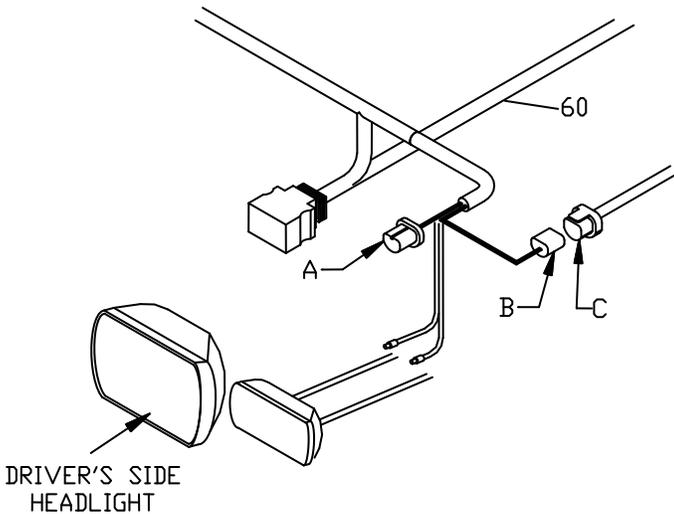

Figure 14. Driver Side Headlight
14. Check that **MSC09058** End Cap (79) is properly inserted into **LBA11117** Light Bar (13).
15. Place **MSC11109** Driver Side Headlight Bracket (82) below Light Bar (13) and secure with one **HDW02019** 3/8"-16 X 1" Hex Head Shoulder Bolt (76A), one **HDW01733** 3/8" Flat Washer (76B), and one **HDW01720** 3/8" Nylon Lock Nut (76C).
16. Fasten **MSC11120** Driver Side Headlight (84) to Driver Side Headlight Bracket (82) using four **HDW02020** 1/4"-20 X 3/4" Hex Head Bolts (76D), four **HDW02018** 1/4" Split Lock Washers (76E), and four **HDW01750** 1/4" Flat Washers (76F). Leave fasteners finger tight until Headlight orientation has been completed. See Figure 14 for proper fastener placement.
17. Repeat Steps 14 through 16 for **MSC11110** Passenger Side Headlight Bracket (83) and **MSC11130** Passenger Side Headlight (85).